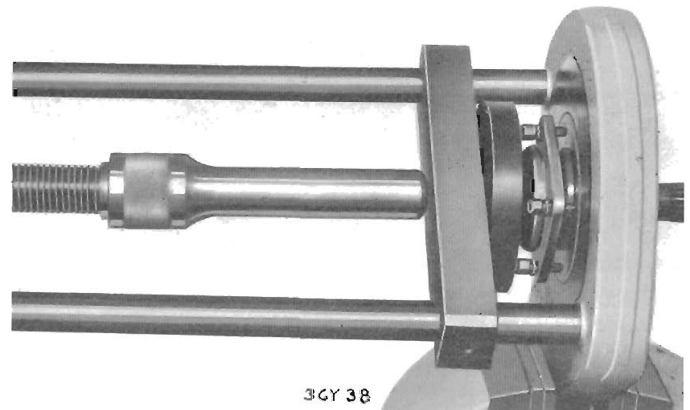

Fig. 22. Pressing the inner axle shaft through the bearing and housing
1. With the lip of the seal leading, drive a new seal into the housing plate (28).
4. Press the ball race on to the axle shaft, as shown on Fig. 22.
5. Fit the circlip (25) to the inner axle shaft groove.